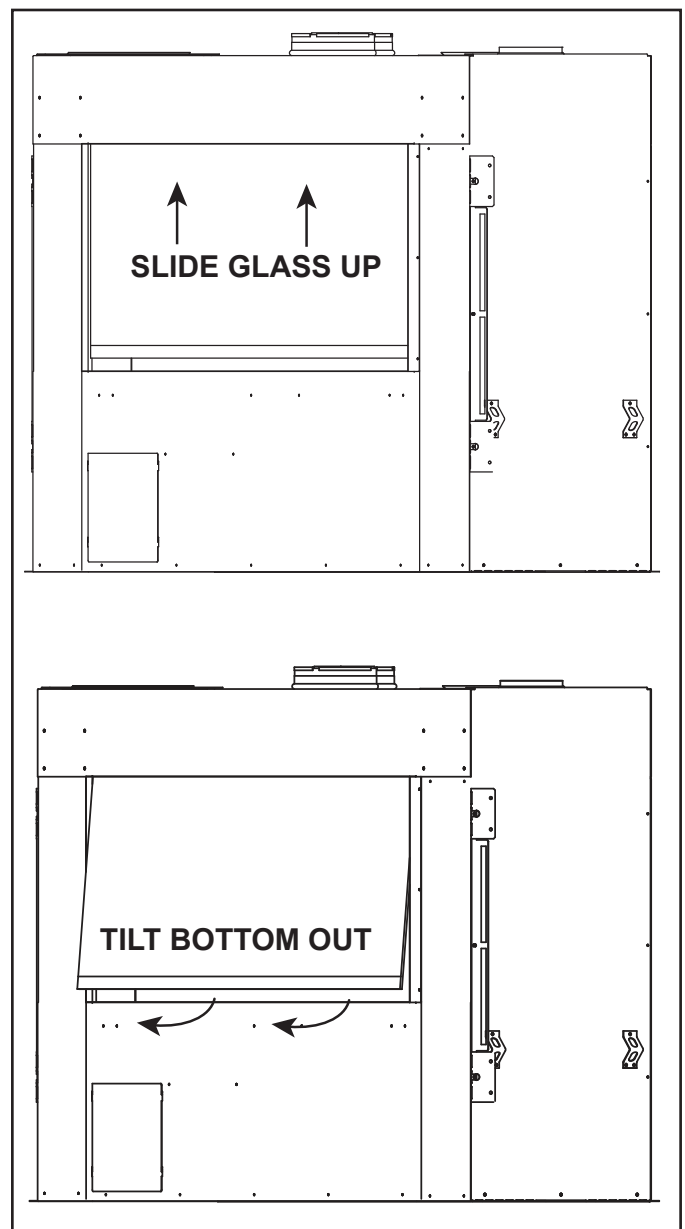

Figure 11.27 Barrier Glass Removal
3. Lift glass straight up into the top cavity, tilt the bottom out and remove glass from the appliance. See Figure 11.27.